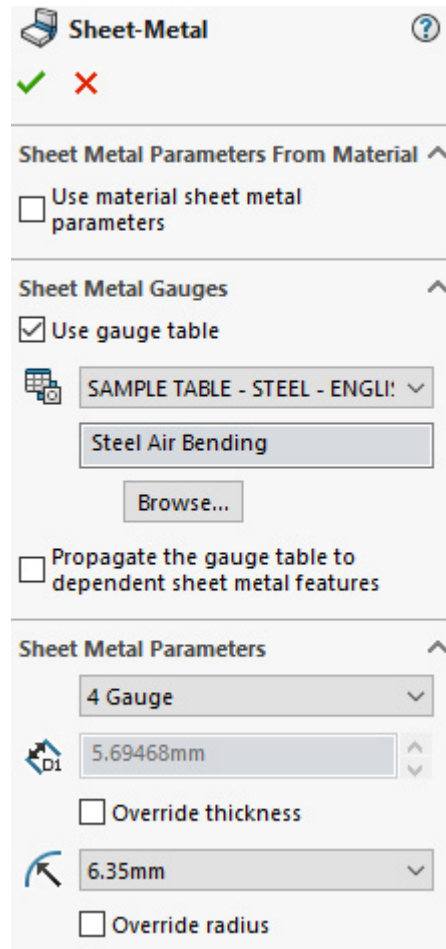

Figure 1.10: Using the Gauge Tables
2. Try selecting a table such as the **SAMPLE TABLE – STEEL** (*Figure 1.10*). The thickness of the Sheet Metal *part* can now be set using the gauge numbers from the dropdown list, rather than the specific thickness value.
A higher gauge number corresponds to a thinner sheet. It can be seen in Figure 1.10 that **4 Gauge** steel is **5.69mm** thick, whereas **16 Gauge** steel is only **1.51mm** thick.